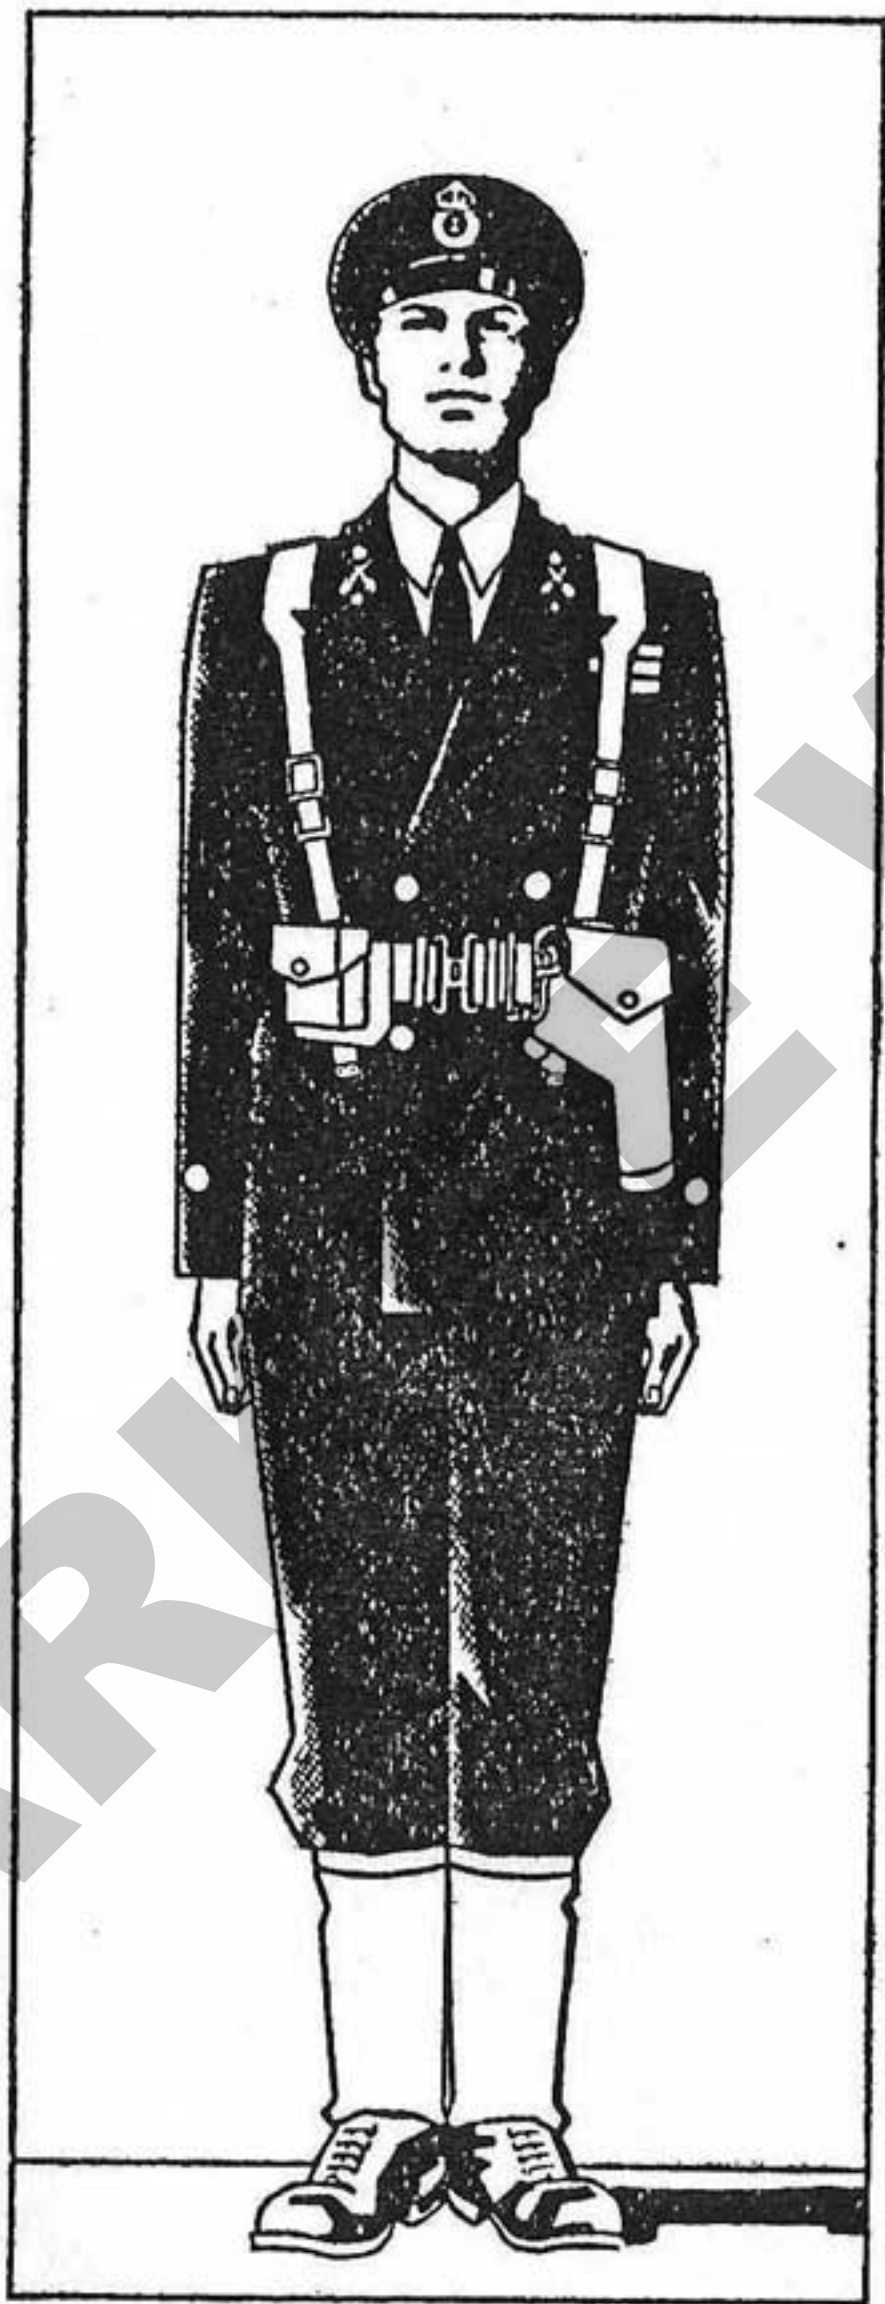

Fig. 20. Pistol equipment musketry order
23. These are fitted on to the left and right hand sides of the belt respectively, in the same way as the basic pouches. (See Fig. 20.)